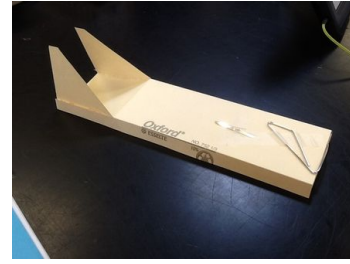

Figure 15: An example of what the finished product should look like
4. Assemble your skimmer, folding parts wherever there are dotted lines. Glue the fins to the sides of the main body and the air scooper to the bottom. **See Figure 15**